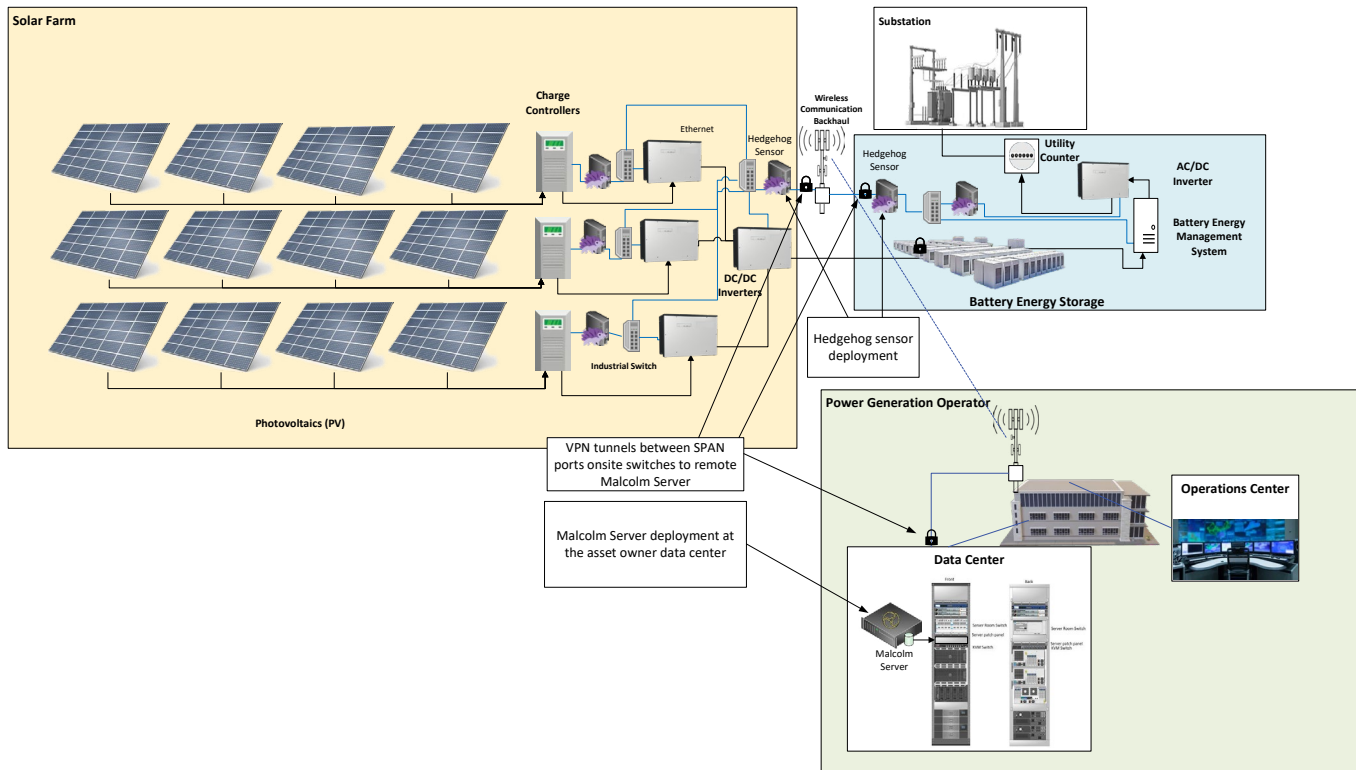

Figure 4. Network architecture diagram for a Solar Power Generation System (Wireless)
systems40, this includes knowing where to place the sensors to capture the most relevant data from the network-connected equipment connected to Industrial Control Systems (ICS) or Operational Technology (OT) devices and systems in the Solar power generation system and the battery energy storage system (BESS) (See Figure 4).